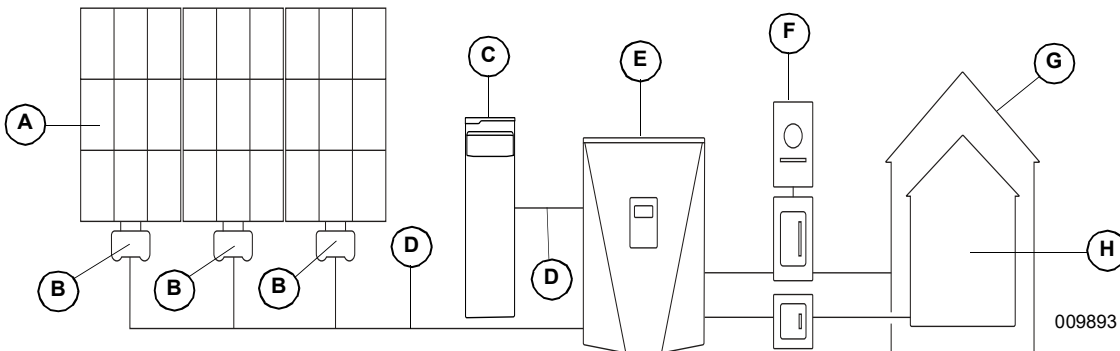

Figure 2-3. Generac PWRcell System Example
In **Figure 2-3** PWRcell inverter (E) is directly connected to PV Link optimizers (B) and PWRcell battery (C) on DC (REbus) line (D). To the right of the inverter are AC lines: 120/240 VAC for grid and home loads (G) and protected loads (H).